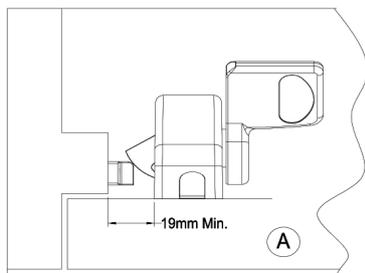

Fig 3.1
1. At a height of 1150mm +/- 100mm and 39mm from the edge of the door frame, mark the door. This will be the centreline for the Push Pad. (Refer to **Fig. 3.1**)
Single Door = 39mm from edge of door frame (Refer to **Fig. 3.1**)